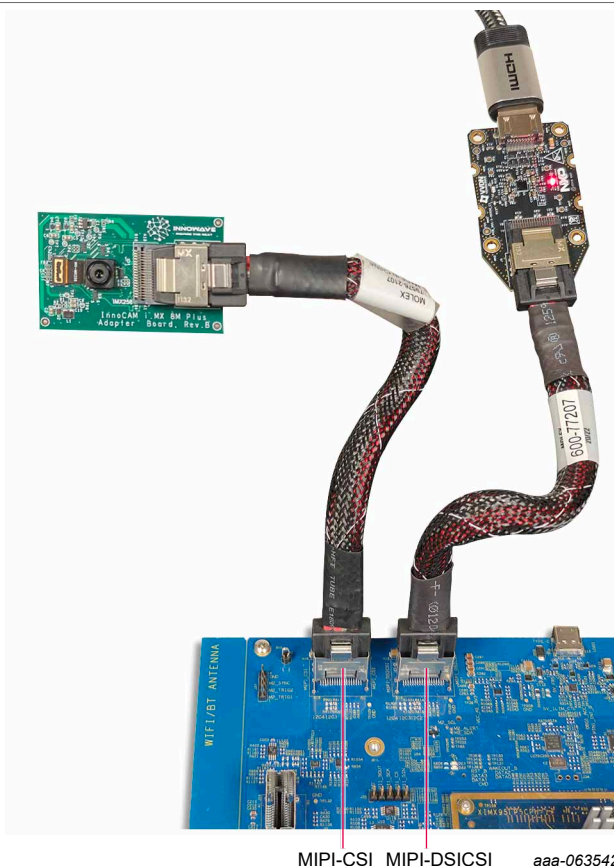

Figure 21. IMX 258 camera module on MIPI-CSI on IMX95LPD5EVK-19
2. Use the highlighted MIPI-CSI 1 port to connect the IMX95LPD5EVK-19 board with MINISAS cable to the IMX 258 camera module adapter board shown in Figure 21.